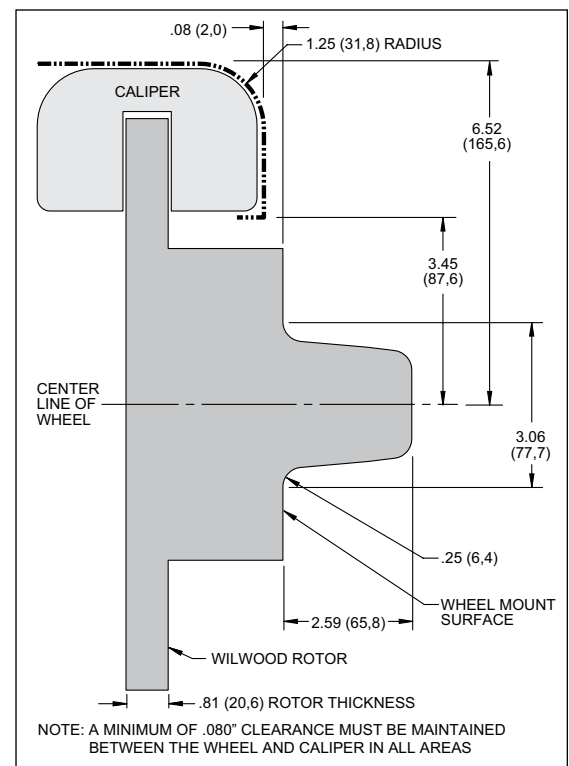

Figure 2. Wheel Clearance Diagram
- Review the Wheel Clearance Diagram (Figure 2, page 3) to verify that there is adequate clearance with the wheels you will be using with the installation.
- Verify wheel clearance utilizing Figure 2.
- WARNING:** The wheel contact surfaces must seat completely on the face of the hub. If any contact surfaces overhang the outside diameter of the hub face, a 6.60" diameter x .20" thick steel spacer (item 23, Wilwood P/N 300-11961) MUST be used between the wheel and the hub.